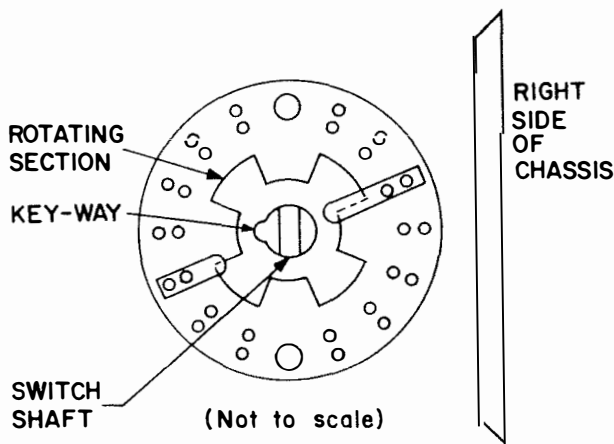

Figure 1. Top View of a S-206 Switch Wafer and Shaft
1. Turn the Delay Control until counter reads  $98375 \pm 4$  (lower limit stop). Place Indicator Chassis in its vertical service position. Referring to Figure 1 make the following observations: